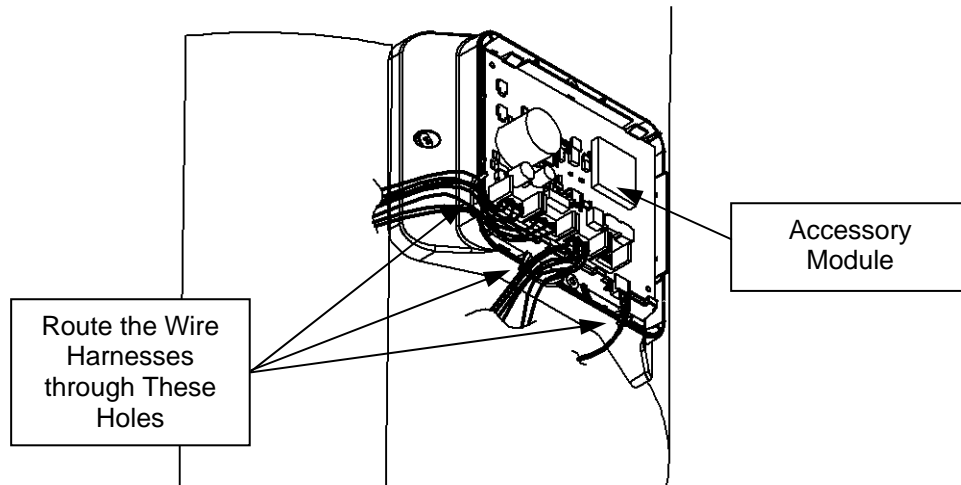

Figure 102
Step 1: Route all of the wire harnesses out of the openings in the bottom and left side of the Accessory Module. And, hold them in place. This is shown in Figure 102.